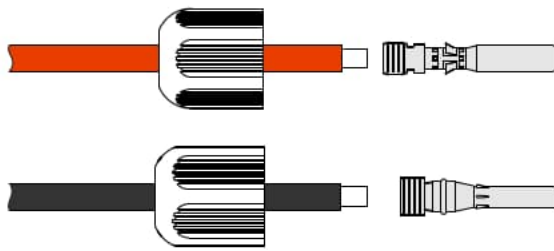

Figure3-16 Crimp the metal terminal
- Step 2 Unscrew the lock nut of positive and negative connection, lead the positive and negative wires go through corresponding lock nut, and then insert the positive wire and negative wire into the positive metal terminal and negative metal terminal respectively. Crimp the metal terminals firmly by crimping pliers, as shown in Figure3-16.